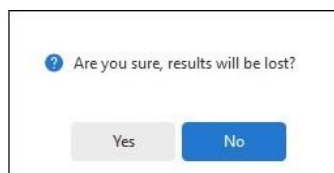

Figure 9.9: Discard Auto Sequence® test results confirmation
- : Discard results, the Auto Sequence® test results are not saved. The user is prompted to confirm the action by selecting the option from the confirmation window, **Figure 9.9**.